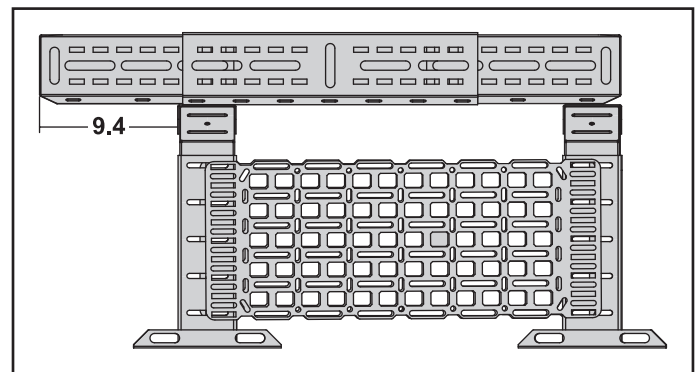

Figure 9.
9. Basket installation is best performed by two people. Lift and carefully place the basket assembly onto the two frame assemblies. Measure the distance between the outer edge of the basket assembly to the face of the frame assembly on each side to ensure proper alignment (figure 9).
Note: The measurement shown in figure 9 is for reference only.